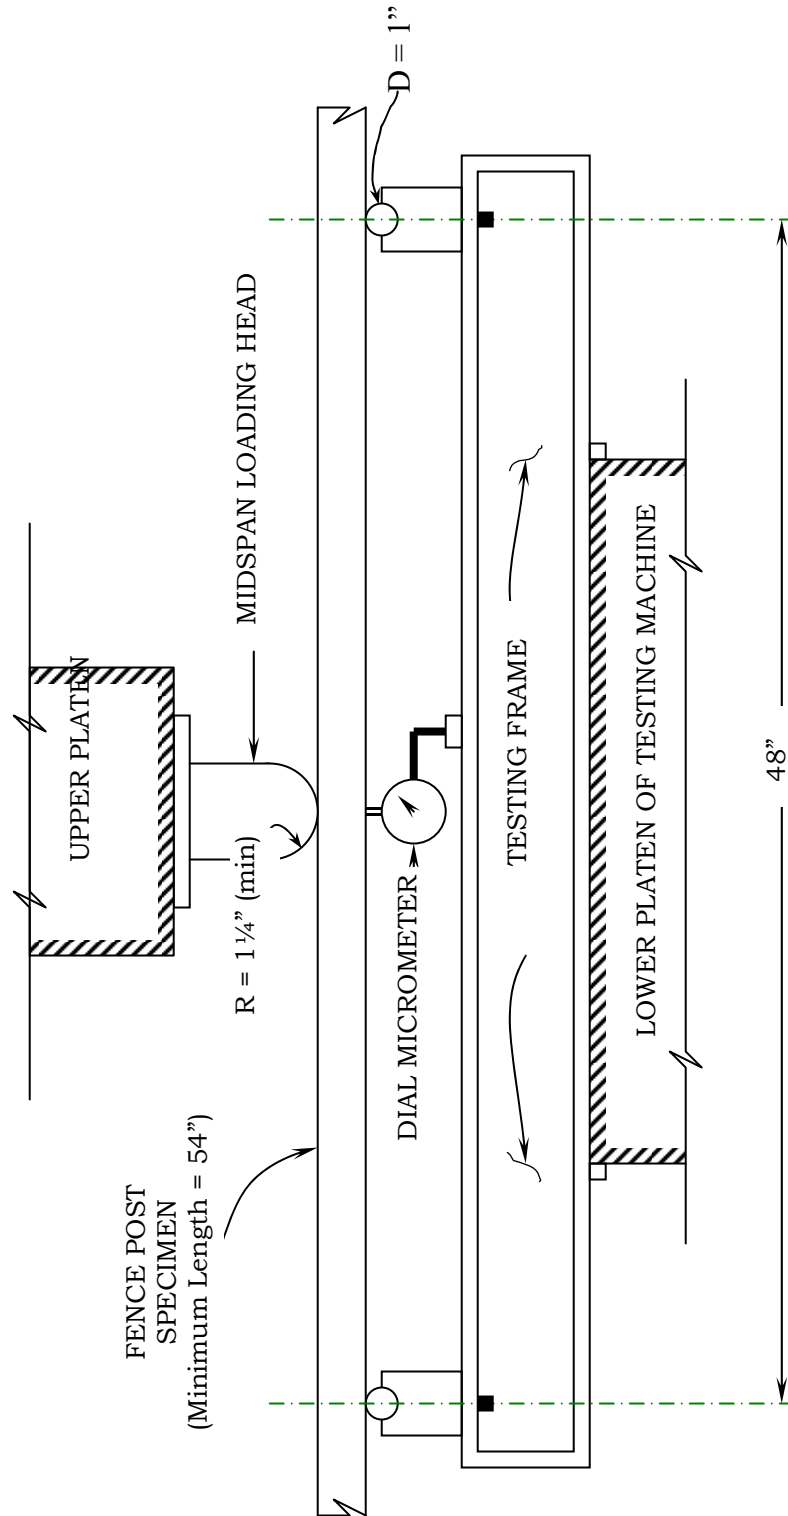

FIGURE 1 - FENCE POST TESTING SYSTEM
2. A testing frame and loading head similar to that shown in Figure 1 is required.